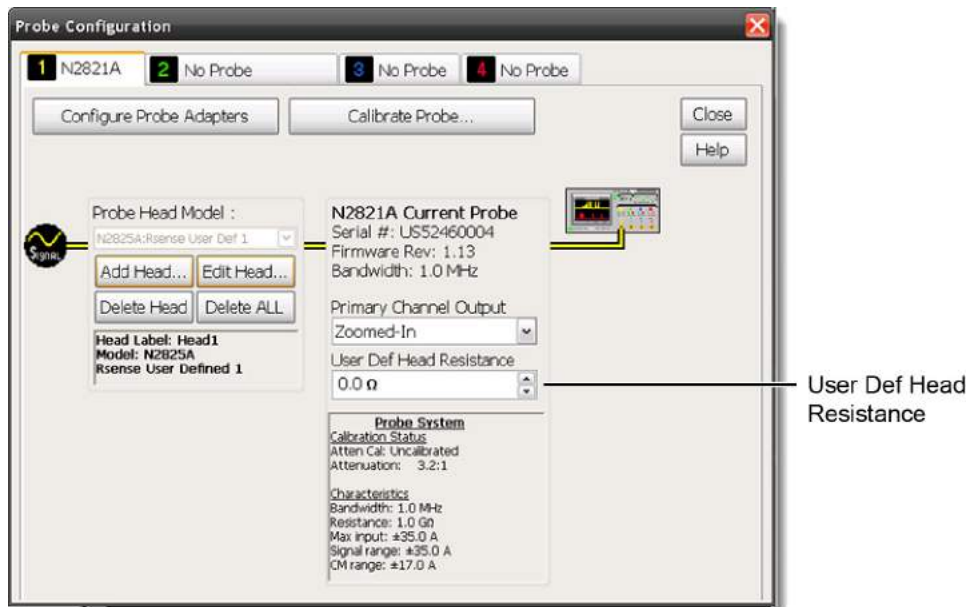

Figure 22 Infiniium Dialog Box With N2825A Heads
- 1 Click the **Setup > Probe Configuration** menu command to view the Probe Configuration dialog box, shown in Figure 22.